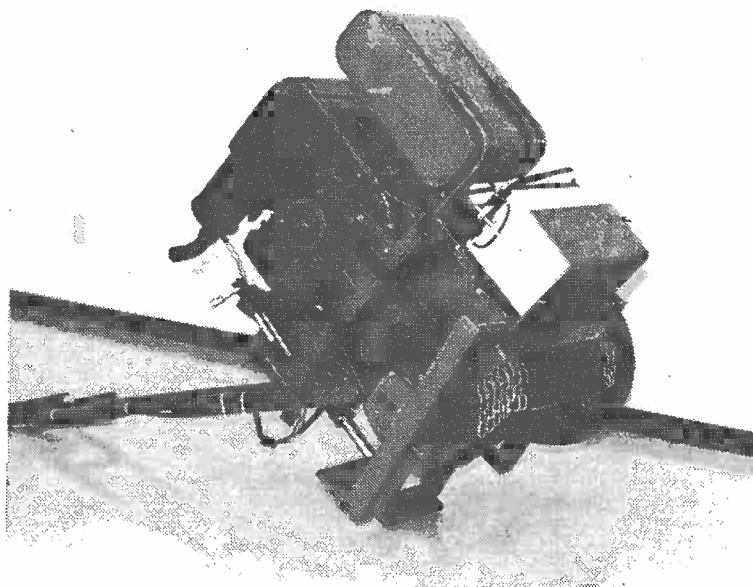

FIGURE 16
8. Push handle down all the way to the ground again (see Figure 16). This will lift front of machine free of cutter head assembly and complete assembly can be rolled out to clear machine.